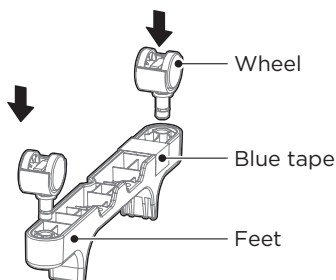

Figure 1
- 1 Remove the feet from the intermediate heat sink and remove the wheels from the foam, as shown in Figure 1, press the wheels on the supporting holes.